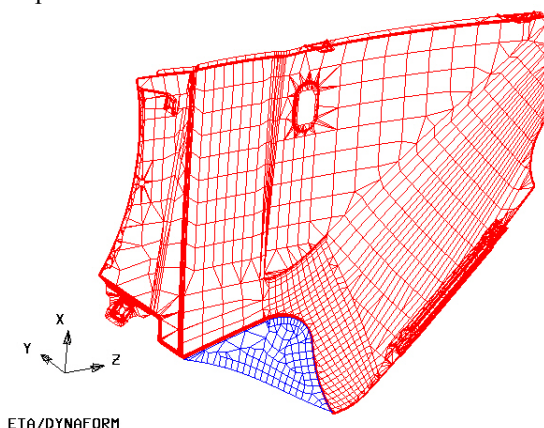

Fig. 6.1.38 Outer Smooth/Roller with Local option
2. Press middle button and a smoother virtual boundary will be highlight than original boundary. If the result is acceptable, click the **FILL BOUNDARY** button to fill in the meshes in gap region. The program will create a new part with the given name and include the filled meshes in it. Moreover, the part will be automatically added to the DIE. Fig. 6.1.38 shows the result of a typical roller operation with Local option on.
4. When the morphed boundary is accepted, select **FILL BOUNDARY** to generate the mesh between the original boundary and the extension boundary. See the right picture in Figure 6.1.38 for the filled mesh.